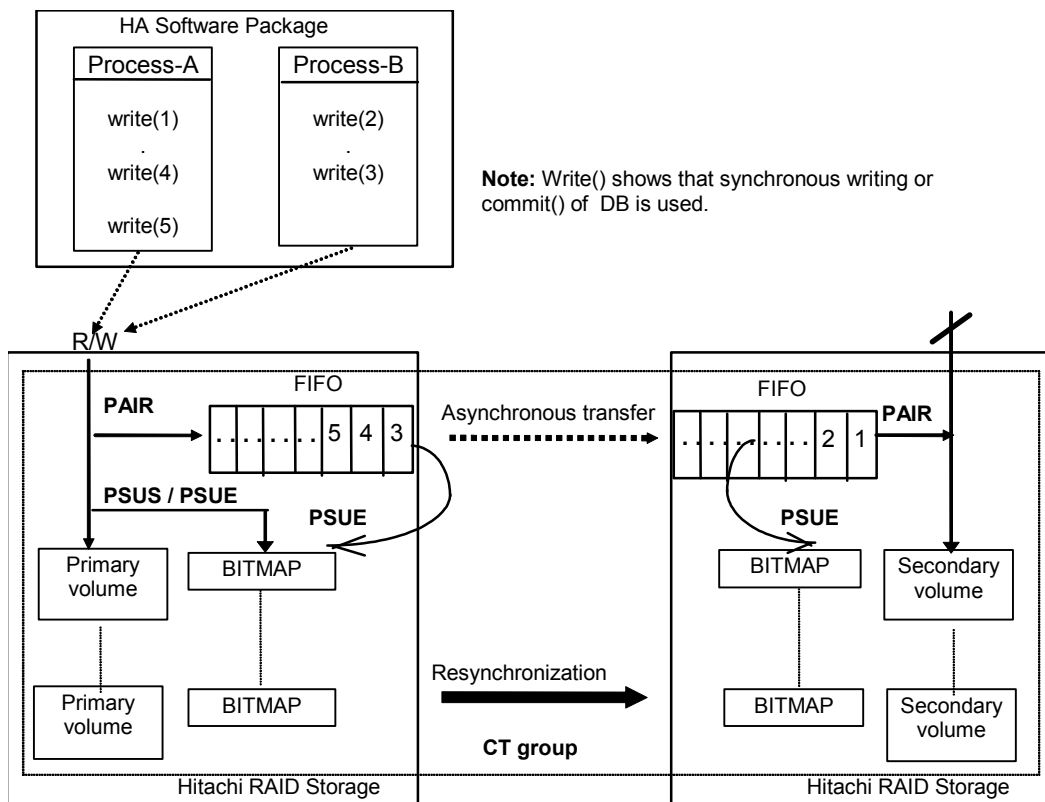

Figure 2.9 Hitachi TrueCopy Asynchronous Consistency Groups
Hitachi TrueCopy Asynchronous/Universal Replicator provides paired volumes which utilize asynchronous transfer to ensure the sequence of writing data between the primary volume and secondary volume. The sequence of writing data between the primary and secondary volumes is guaranteed within each consistency (CT) group (see Figure 2.9).